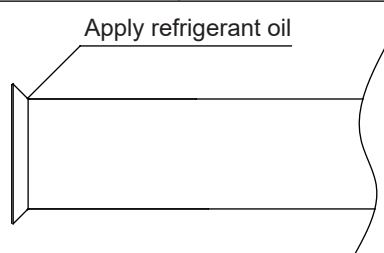

Fig.9
- For connection at a flare, apply ester or ether oil to the flare (both inner surface and outer surface). Apply such oil for 3 to 4 times and insert the screw in the first use (Refer to Fig.9).
- To weld the refrigerant pipe, please make nitrogen replacement (*1), or send nitrogen (*2) into the refrigerant pipe while welding the pipe (refer to Fig.9). Finally use the flare or flange to connect the indoor unit and valve box.